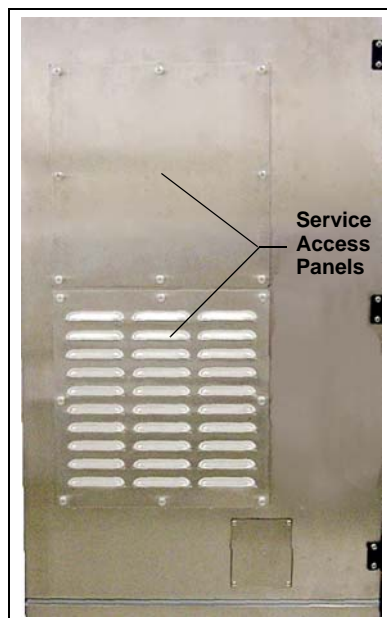

Figure 10-8. AE Left Side Exterior
5. On the exterior of the AE, remove the two service access panels on the left side of the AE (see Figure 10-8).